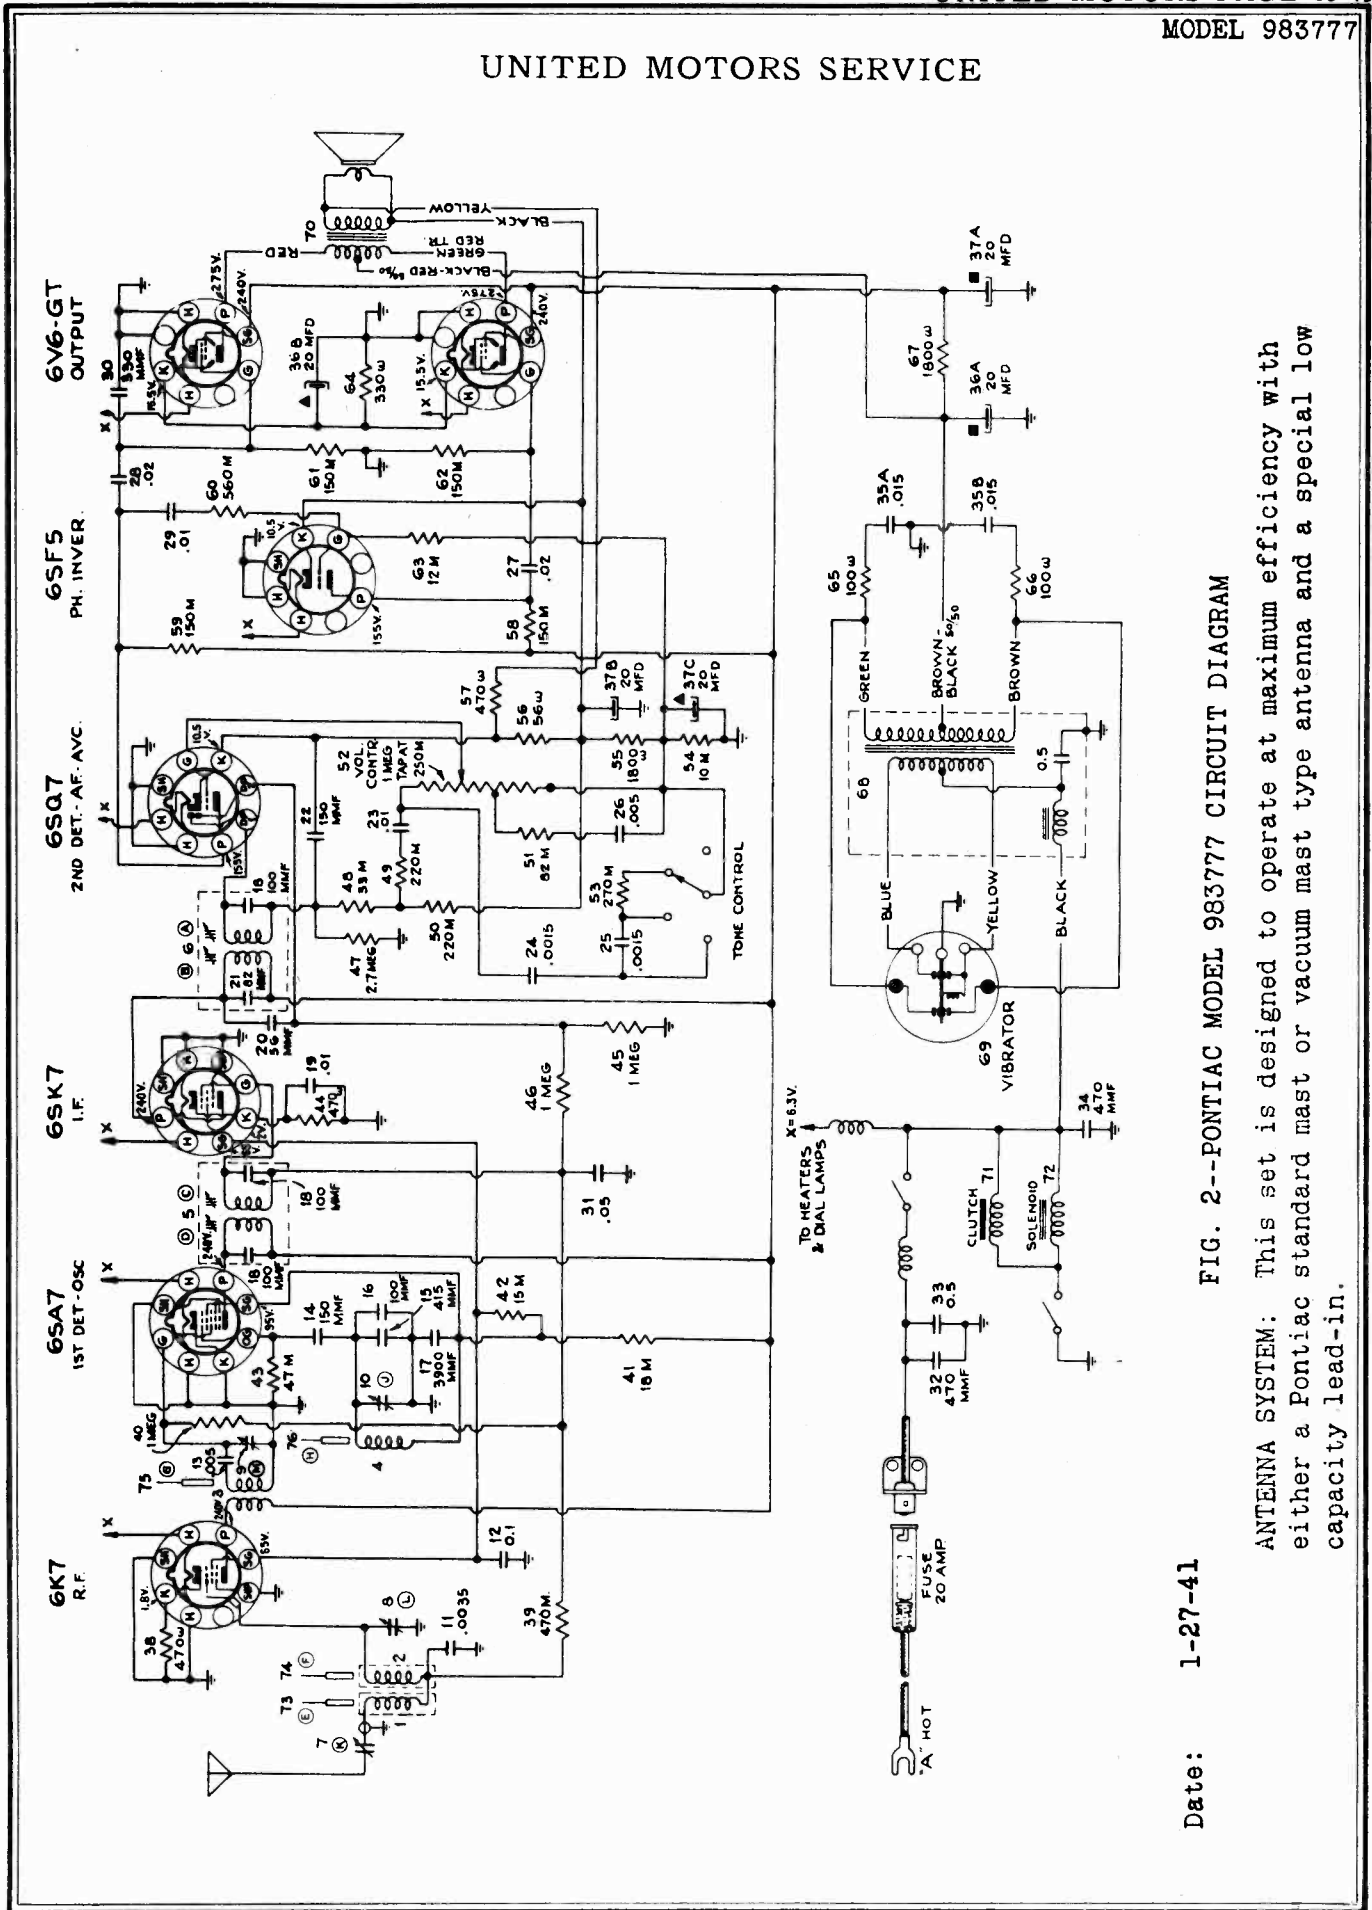

FIG. 2--PONTIAC MODEL 983777 CIRCUIT DIAGRAM
- (b) Connect the signal lead of the signal generator to the control grid of the 6SA7 tube (PIN #8, Fig. 2) through a .01 mfd. condenser.